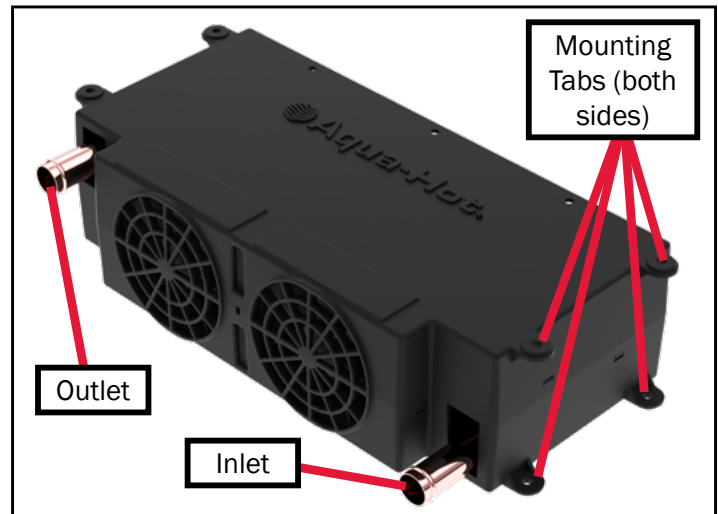

Figure 23
- Coolant must flow in through the bottom of the heat exchanger, and out the top (Figure 23).
2. Mount each heat exchanger permanently into place. There are 4 tabs on both sides - see Figure 23.